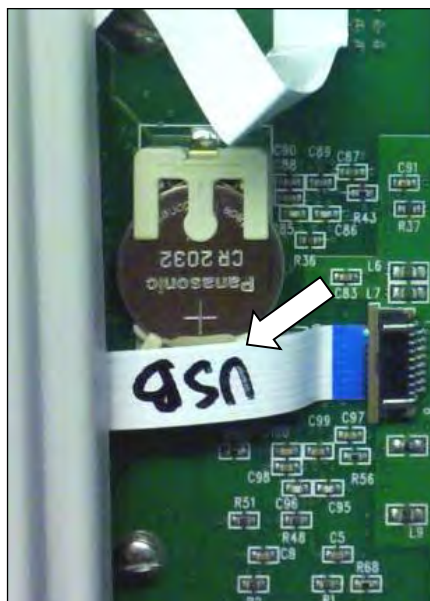

Figure 15-10
- c. Press down on the other side of the battery as shown in Figure 15-10 until a click is heard.